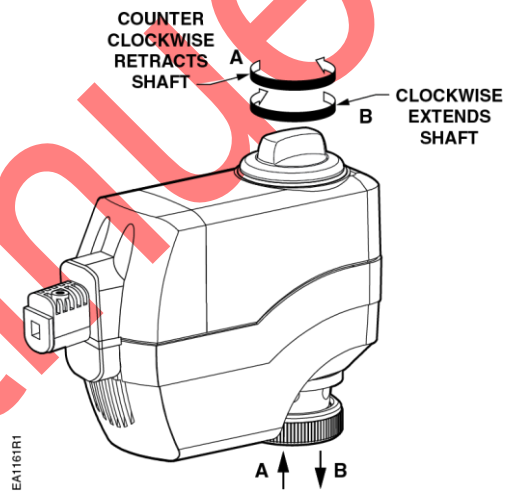

Figure 5. Manual Override.
2. Turn the manual position indicator (see Figure 5 and Figure 6) on the top of the actuator to the 0 position and verify that the actuator shaft retracts completely.
For manual positioning, use the manual override knob in the center of the position indicator, See Figure 5.